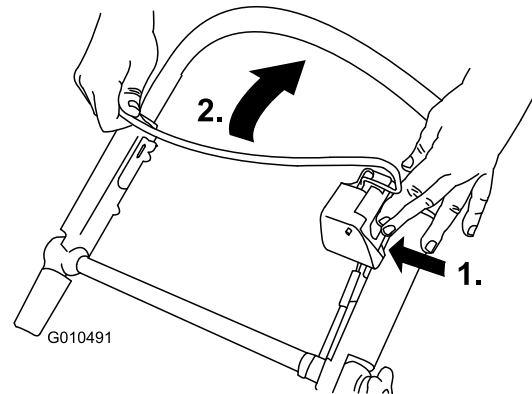

Figure 22
1. Push the blade-control button and pull the blade-control bar to the handle (Figure 22).